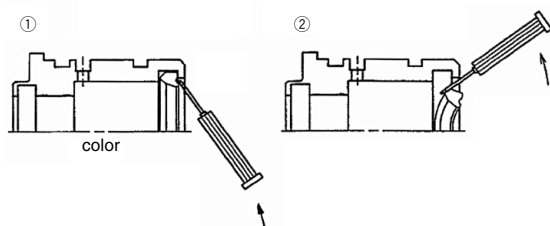

Fig. 4 Removal of the cushion seal
- b. As shown in Fig.4, pull out the cushion seal by inserting the precision screwdriver from the back of the seal and the head cover. Take care not to damage the seal groove at this time.